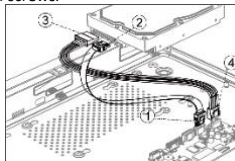

Figure 2-2 Connect Cable
Step 2 Connect the data cable and power cable. Refer to Figure 2-2.